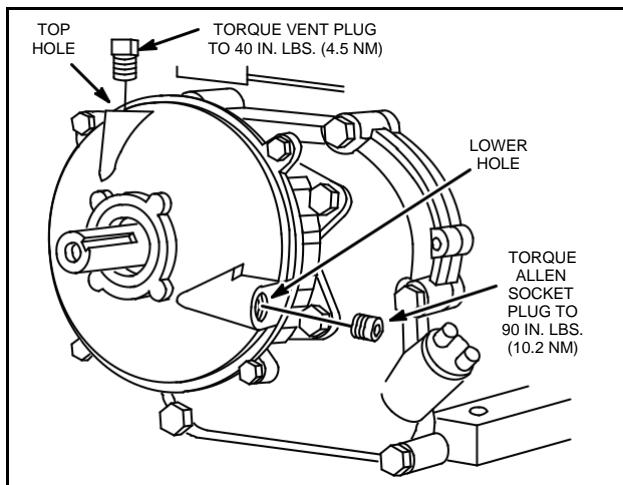

Fig. 136 - FILLING GEAR CASE
5. Install vent plug with hole in top hole and torque to 40 in. lbs. (4.5 Nm), Fig. 136.